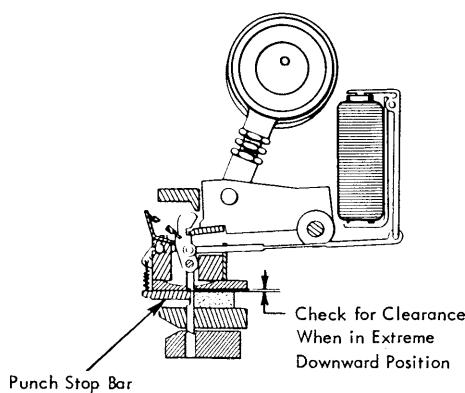

Figure 42. Punch Bail Stop Bar
### PUNCH STOP BAR (FIGURE 42)
b. Press on the top of the engaged interposers and carefully check for additional downward movement of at least .005" (Figure 42). This is to insure that the notch in the punch will not be driven against the punch stop bar.
c. Further check this adjustment after all other die and stripper and vertical punching registration adjustments have been made. Run approximately fifty cards through the machine and punch zeros in all eighty columns. The holes in all positions should be punched cleanly. If not, increase the punch travel slightly. Be sure to check for some punch to stop bar clearance each time until the test is performed successfully (See Figure 42). Punch travel into the die should always be held to a minimum consistant with proper punching results. This insures longer die life and minimizes pulling of card chips.